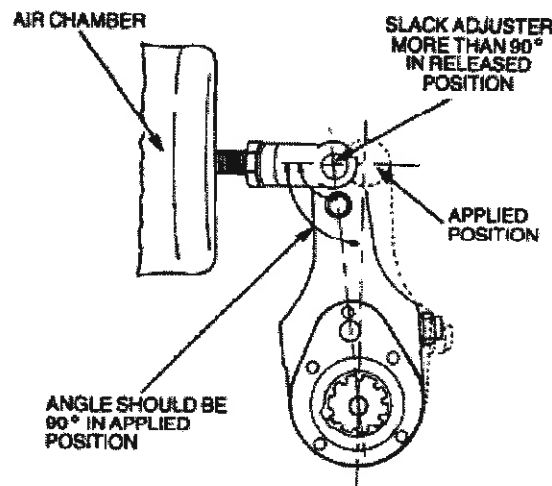

Figure 34 Slack Adjuster and Push Rod Angle
- k. Apply the brakes and check the angle between the slack adjuster and the push rod (Figure 34). The minimum allowable angle is 90°.